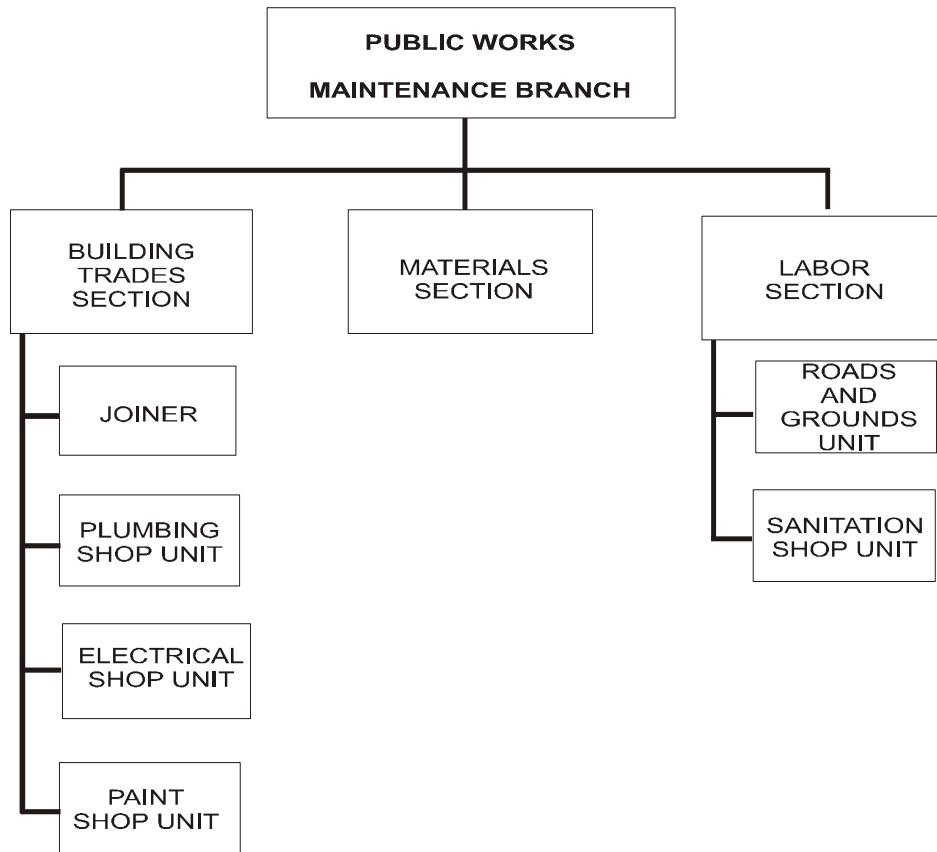

Figure 3-9. Organizational chart with a limited number of organizational component blocks.
- (2) In selecting what type of chart you should develop, determine what information the chart needs to convey and then determine the simplest format to express that information. You may prefer to combine all three of the basic types into one chart if the organization is small and simple. If too much information is presented, the chart will be too difficult to read and may be confusing.
- (3) An organizational chart should conform to a distinct format. The arrangement of a chart should contain five main points: simplicity, clarity, completeness, symmetry, and unity.
- (b) Clarity is related to simplicity. A chart with only a limited number of organizational component blocks joined by a small number of lines can be simple. Lines should never cross. Blocks must be labeled and titles not omitted. Figures 3-9 and 3-10 illustrate good examples of organizational charts and contain other suggestions to simplify the chart layouts.